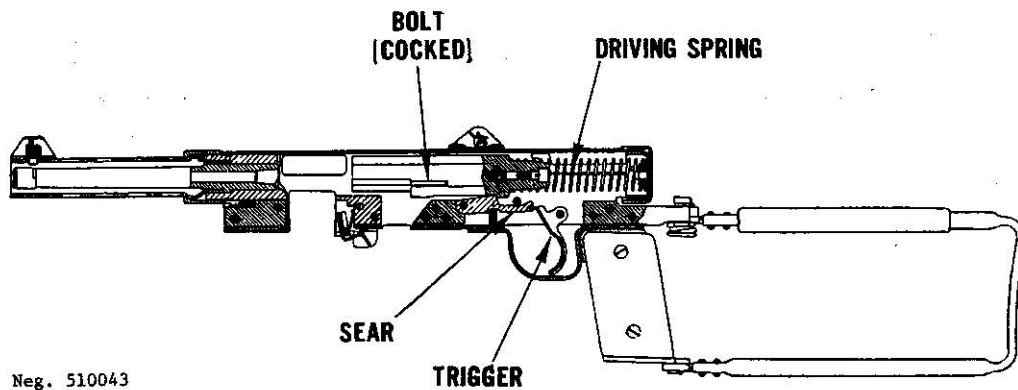

Figure 44. M45b section.
- b. The firing cycle starts with the bolt cocked to the rear, caught by the sear, compressing the driving spring (fig 44). Pressure on the trigger causes it to rotate, and a forward lug on the trigger bears against the rear of the sear to force the sear down to release the bolt. The driving spring forces the bolt forward. As it moves, the feed rib drives a cartridge out of the magazine and into the barrel chamber. As the cartridge seats in the barrel, the fixed firing pin strikes the primer and fires the cartridge.